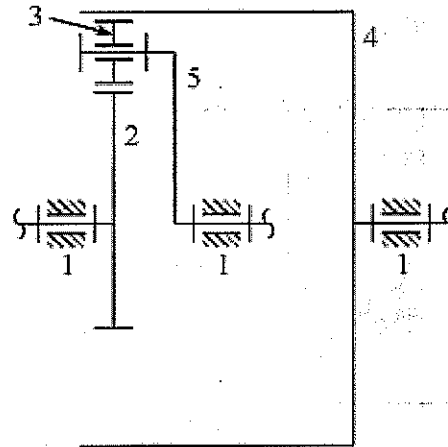

Fig. 3
3. Determine the speed ratio between the input shaft (gear 4) and the output shaft (arm 5) of the gear train shown in Fig. 3. Gear 2 is fixed, and the numbers of teeth for the gears are $T_2=75$, $T_3=15$, and $T_4=105$, respectively, in the mechanism. (20%)